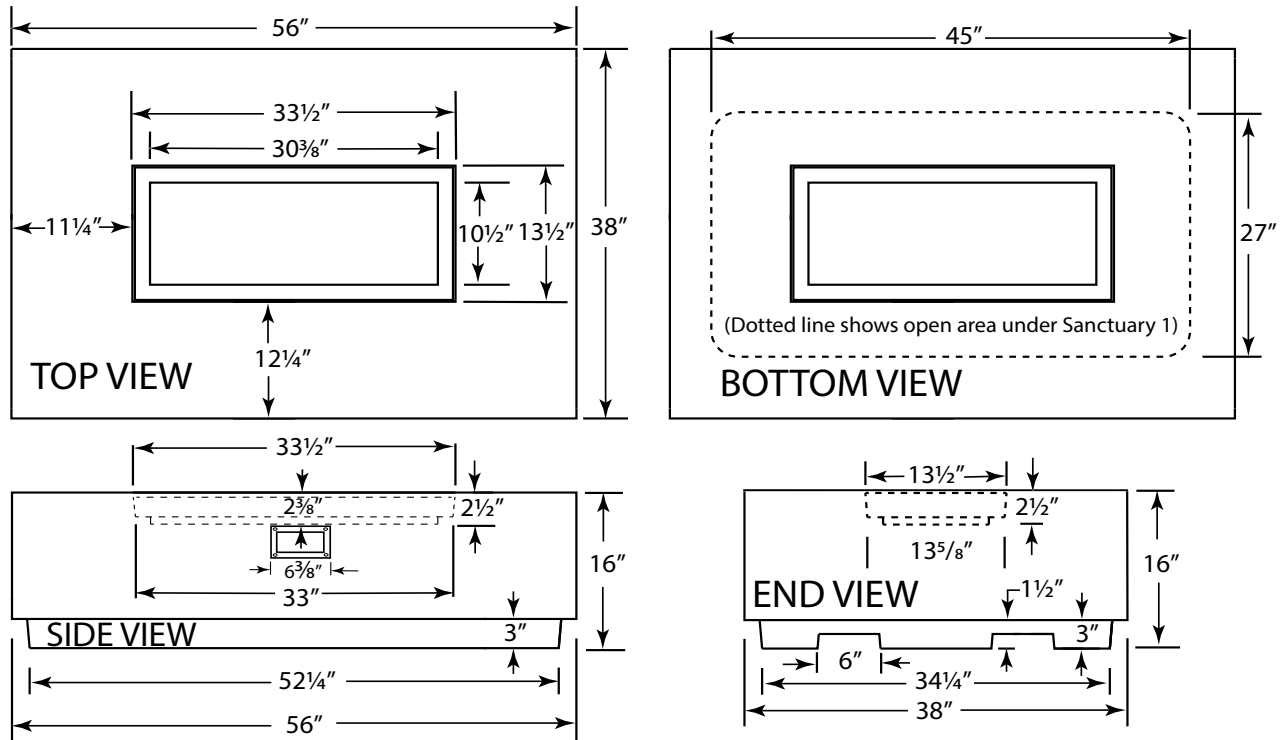

Fig. 1 Sanctuary Dimensions
The Sanctuary 1 can be plumbed with either Natural or Propane (LP) gas. If you choose to run hard pipe underneath the Sanctuary 1, protrude pipe no higher than 6" above ground. Fig. 1 shows "BOTTOM VIEW" available area for gas line.